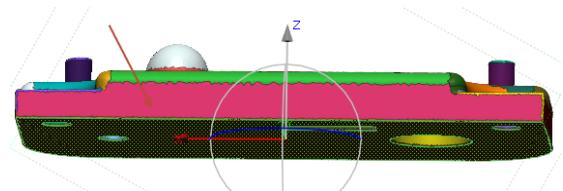

Figure 93
- The **Vector** will set the **Top Plane** and the **Y Axis** direction. Choose the pink long thin **Plane Region** pointed at in **Figure 93**.